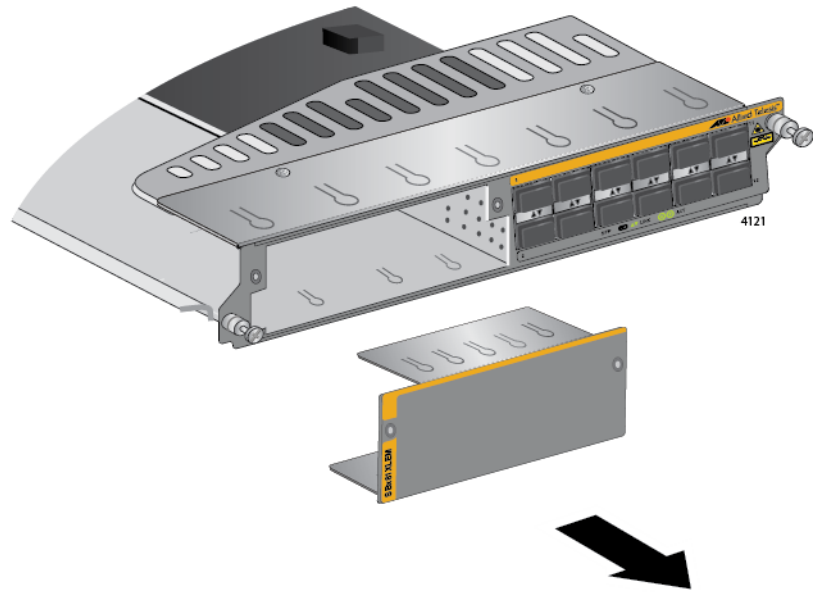

Figure 85. Removing the Blank Slot Cover from the AT-SBx81XLEM Line Card
5. Slide the blank slot cover from the slot. Refer to Figure 85 on page 160.